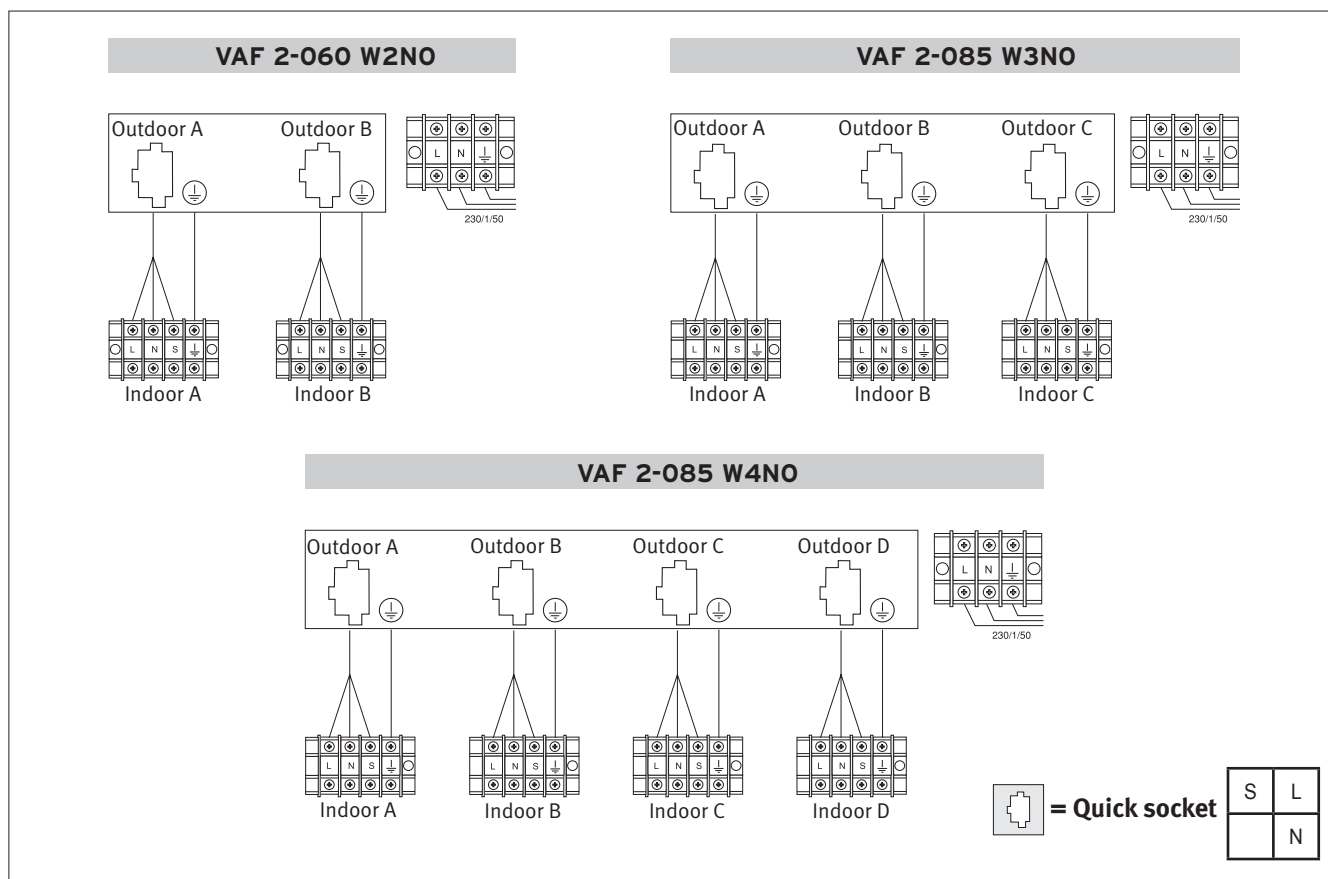

Fig. 11.1 Wiring
- Make the connections on the terminal strip of the indoor unit according to the corresponding wiring diagram (see Figure 11.1).